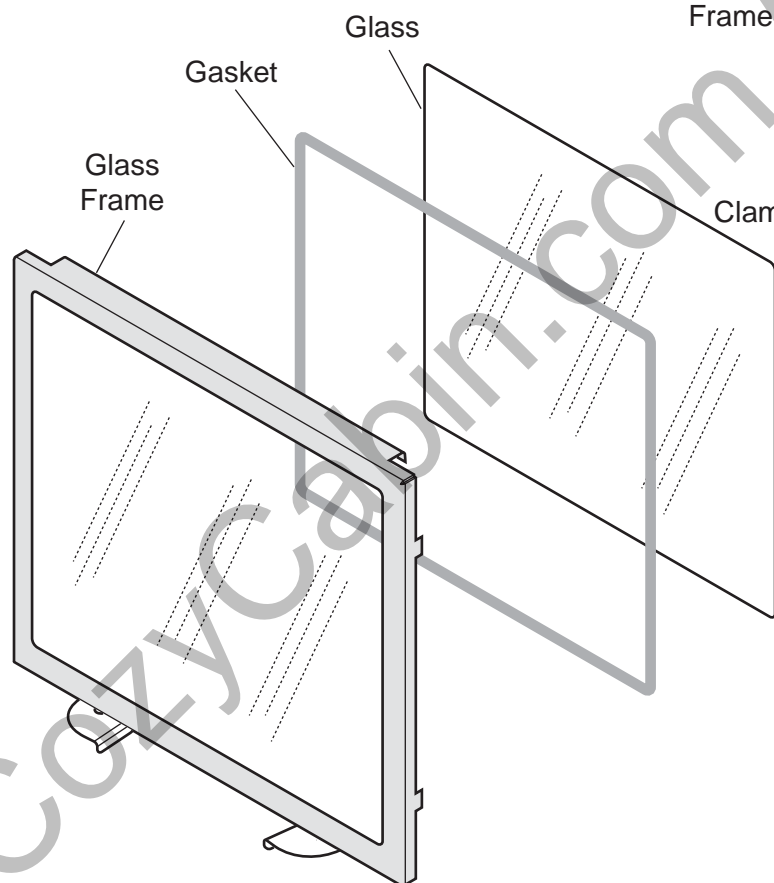

Figure 52 - Replacing Glass
7. Slide glass frame back down onto stove and fasten two clamps. *See Figure 52.*